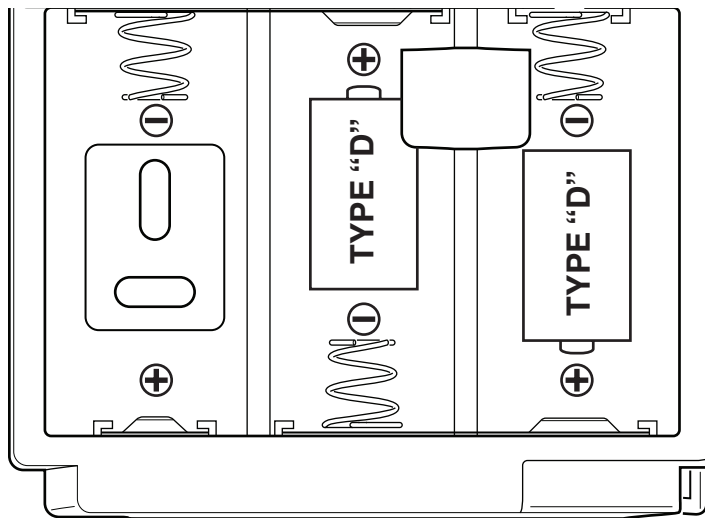

Figure 5
1. If chime is not connected to transformer wires then install 3 alkaline “D” batteries. Make sure batteries are oriented properly (see Figure 5).